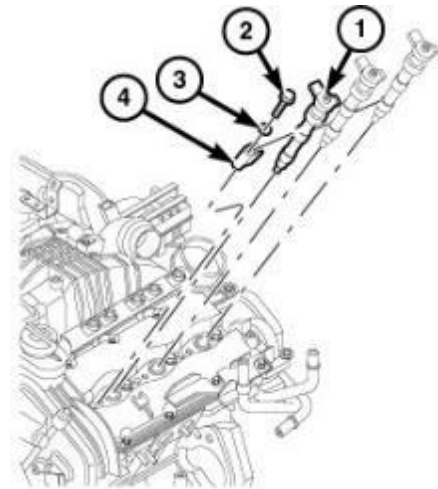

Figure 45 – Fuel Injector Removal
42. Remove the fuel injector hold-down bolt (2), washer (3), and retaining claw (4) (Figure 45).
43. Using your hand, pull fuel injector (1) straight up from cylinder head for removal. Discard lower sealing washer and injector (Figure 45).
55. Install the fuel injector (1), tensioning claws (4), washer (3) and bolt (2). Tighten the bolt (2) to 33 N·m (24 ft. lbs.) (Figure 45).